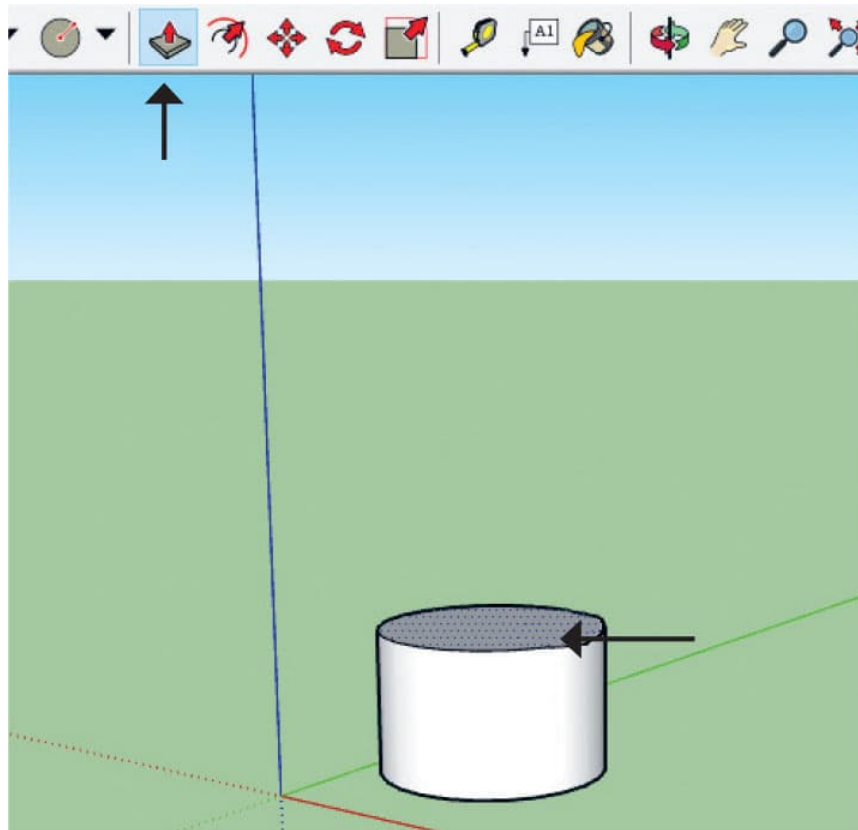

FIG. 5: *Stretch the circle into a cylinder.*
5. Follow step 2 to extrude the circle to convert it to a cylinder (fig. 5).